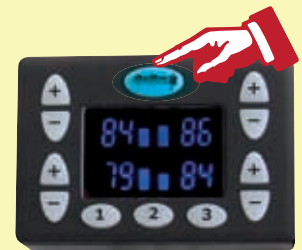

Fig.1
- 2 Press and hold the Air Ride Logo Programming Button for 3 seconds. (Fig.1) This will illuminate the programming button and will activate the programming sequence.